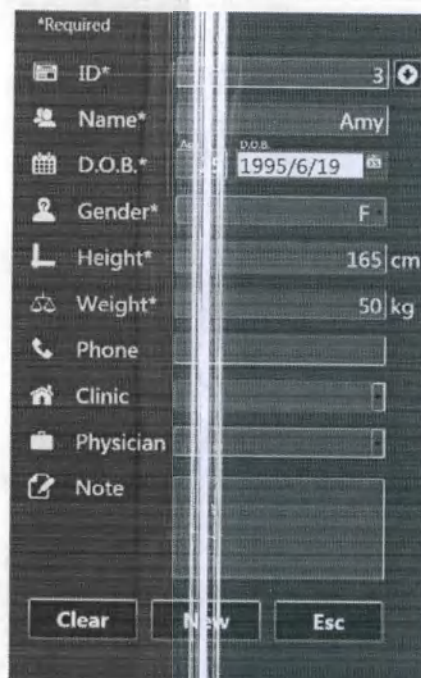

Fig. 6-8 New Patient Case Menu
4. When entering information about a case, you must fill in the menu spaces marked with an “*”, otherwise you will not be able to create a case. The "New Patient Case" menu is shown in fig. 6-8.